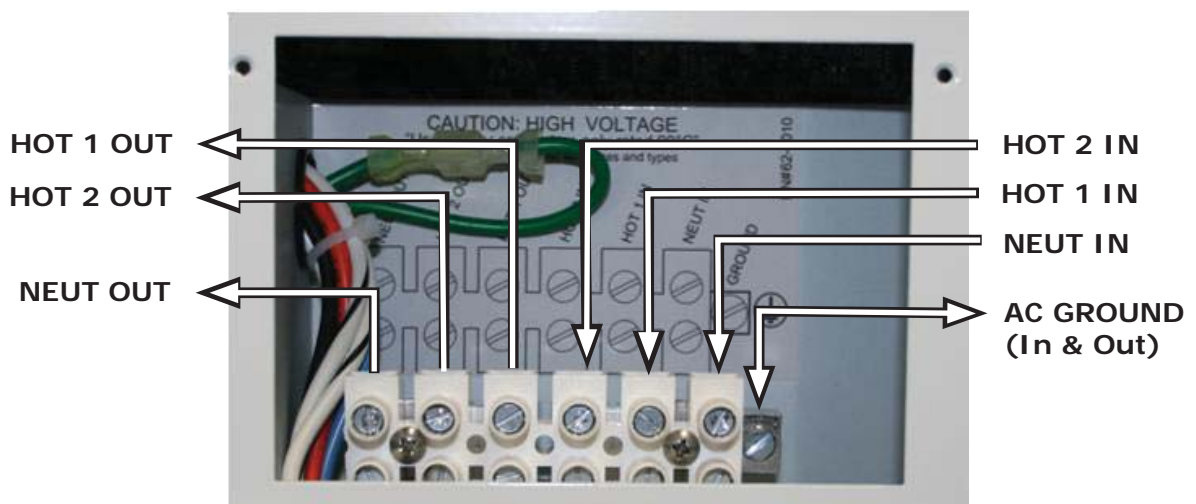

Figure 2-8, AC Terminal Block
The MS2012, MS2812, and MS4024 models have a six-pole AC terminal block and one AC ground terminal to connect the inverter's AC input and output wiring. This terminal block (see Figure 2-8) allows a service/distribution panel (main panel) to be wired to the inverter's input, and also allows a dedicated panel (sub-panel) between the inverter's output wiring and the AC loads. To access and view the AC terminal block and ground terminal, remove the two Phillips screws holding the AC wiring access cover plate (see Item 15, Figure 1-3).
1. Remove the two Phillips screws on the AC wiring access cover (Item 15, Figure 1-3) to access the internal AC terminal block (see Figure 2-8).